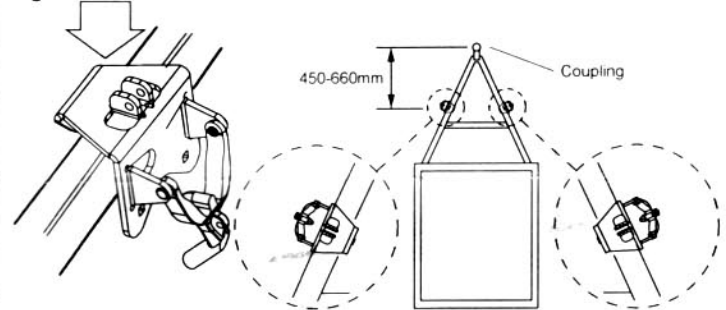

Fig. 5b
B. Fit the spring bar retaining plate to the spring bars ensuring that the plate is a minimum of 100mm away from the end of the spring bars (Fig. 5b). Take load on the jockey wheel to bring trailer and vehicle to above horizontal.